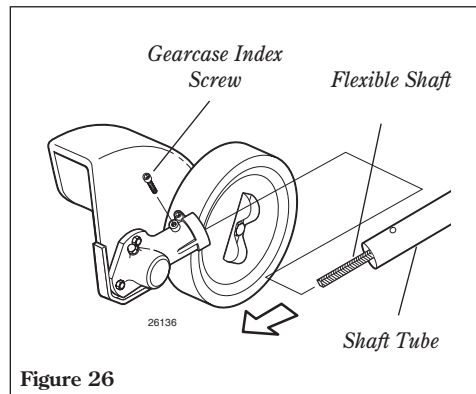

Figure 26
7. Insert the flexible shaft into the female end of the gearcase pinion. See Figure 26.